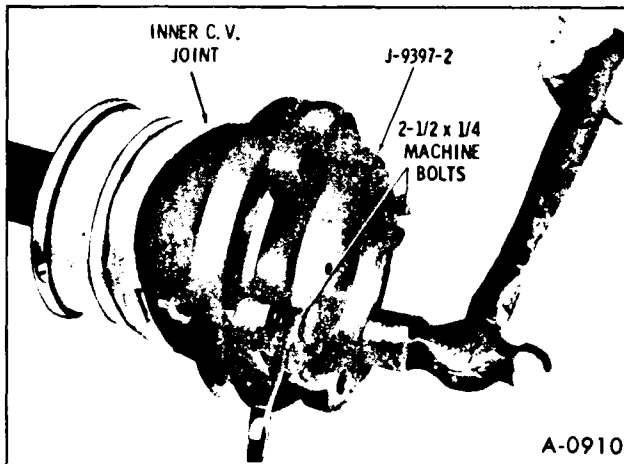

Figure 29-Installing Cover Into Housing
8. Install cover into housing using existing A/C Tool No. J-9397-2. Attach two machine bolts ($1/4"$ x $2-1/4"$ Lg.) as shown in Figure 29 and tighten bolts alternately while tapping lightly with hammer until cover bottoms.